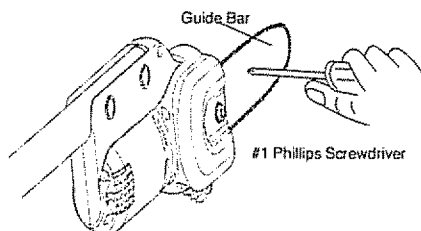
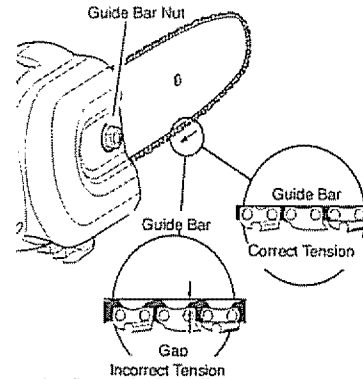

Figure 5 - Chain Tension Adjustment
Figure 6 - Saw Chain Adjustment
- 2 Insert a #1 Phillips head screwdriver or smaller into the hole in the middle of the guide bar (see Figure 5). Using the screwdriver, push the guide bar away from Pole Saw motor housing to tension the chain. **Note:** There should be no gap between side links of chain and bottom of guide bar (see Figure 6)